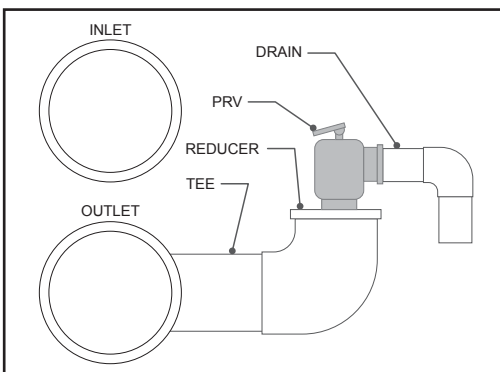

Figure 11. Pressure Relief Valve install
- Locate the water outlet port on the inlet/outlet header side of the heater. This is the bottom port which returns water to the pool and/or spa. See *Figure 11*.
- Using PVC or CPVC plastic pipe and fittings, install a 50 mm (2") tee. See *Figure 11*.
- Install the PRV so that it is vertical. See *Figure 11*.